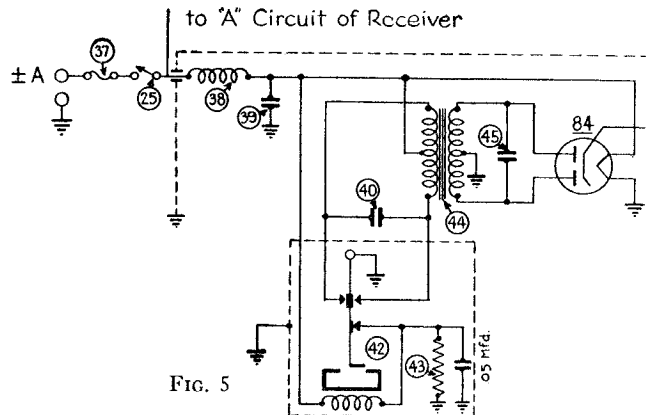

FIG. 5
Fig. 5 shows the changes made in the vibrator section of the Model 5. The 200-ohm resistor ④ in the old schematic has been removed from across the vibrator contacts. An .05 mfd. condenser will be added to the driver contact spring to remove vibrator interference which may be picked up due to the increased sensitivity of the receiver. The thirty-turn choke, while not shown in the schematic as a part, is still used in wiring the receiver. Fig. 5 also shows a correction to the schematic in the April "Service Broadcast." The "A" lead to the "A" circuit of the receiver should be connected at the switch ahead of the "A" choke instead of being connected as shown in the earlier schematic.